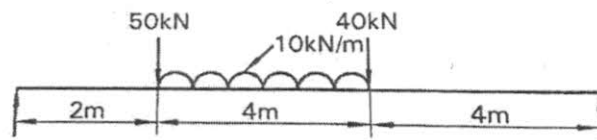

Figure Q5(a).
5. Find the reaction forces at A and B and draw the shear force and bending moment diagram for the beam shown in Figure Q5(a). Also find maximum bending moment.